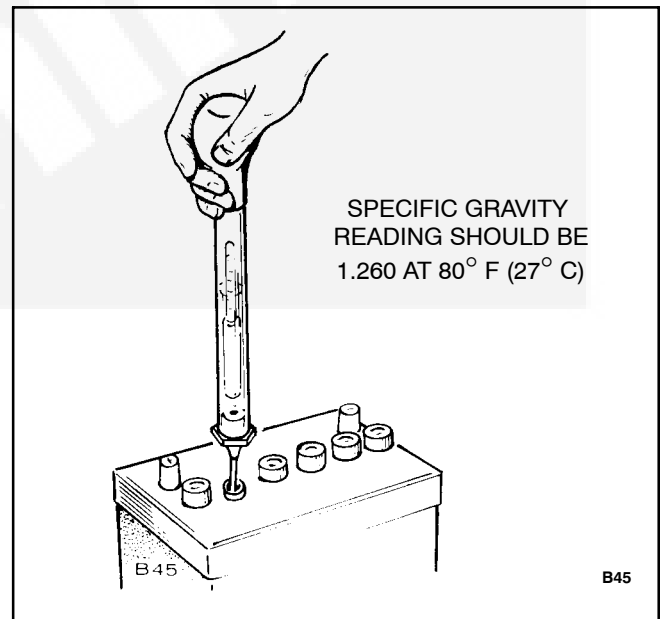

FIGURE 11. BATTERY CHECK
5. Use a battery hydrometer to check the specific gravity of the electrolyte in each battery cell (Figure 11). Charge the battery if the specific gravity measures less than 1.215. Do not over-charge the battery. Stop charging the battery when the electrolyte specific gravity reaches 1.260, at approximately 80° F (27° C).